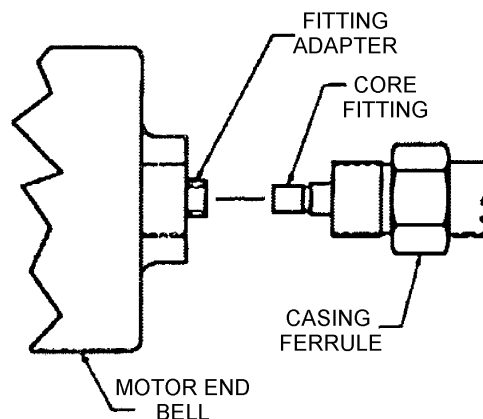

Figure 1. Motor End Bell
3. Screw the shaft casing ferrule into the motor end bell (threads are right handed). See Figure 1.